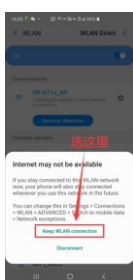

Figure5
E) Most smartphones automatically select a network. When the connected network pops up and there is no Internet access signal, be sure to choose to keep connected to ensure that the initialization is carried out smoothly, as shown in Figure 5, and the initialization is completed at the last point, as shown in Figure 6 As shown.